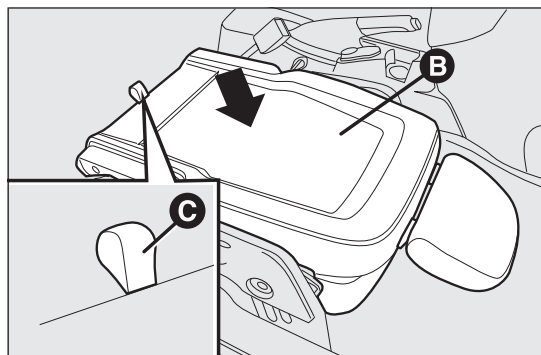

fig. 19
- ☐ then push the backrest B fig. 19 down: the seat is now completely folded over on itself into the "table" position;
- ☐ pull flap C fig. 19 and push the backrest down further: the seat is now completely folded away.
- ☐ take tab C fig. 19 and lift the backrest up;